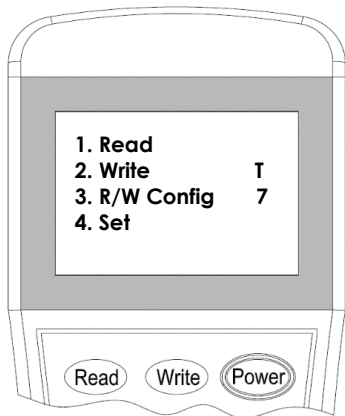

Figure 6
2. Switch-on the programmer, then press button **"Write"** or number **"2"** to enter Write Address mode (Figure 6).